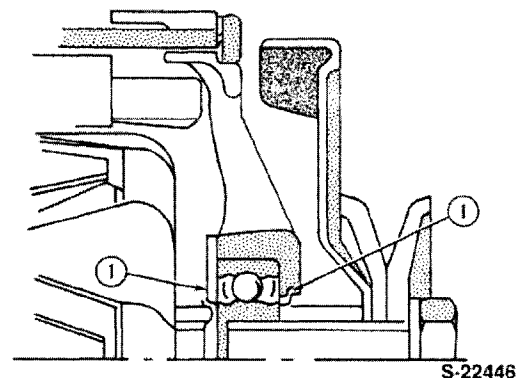

Figure 98
3. Check the dust seals on the front bearing as shown in Figure 98.